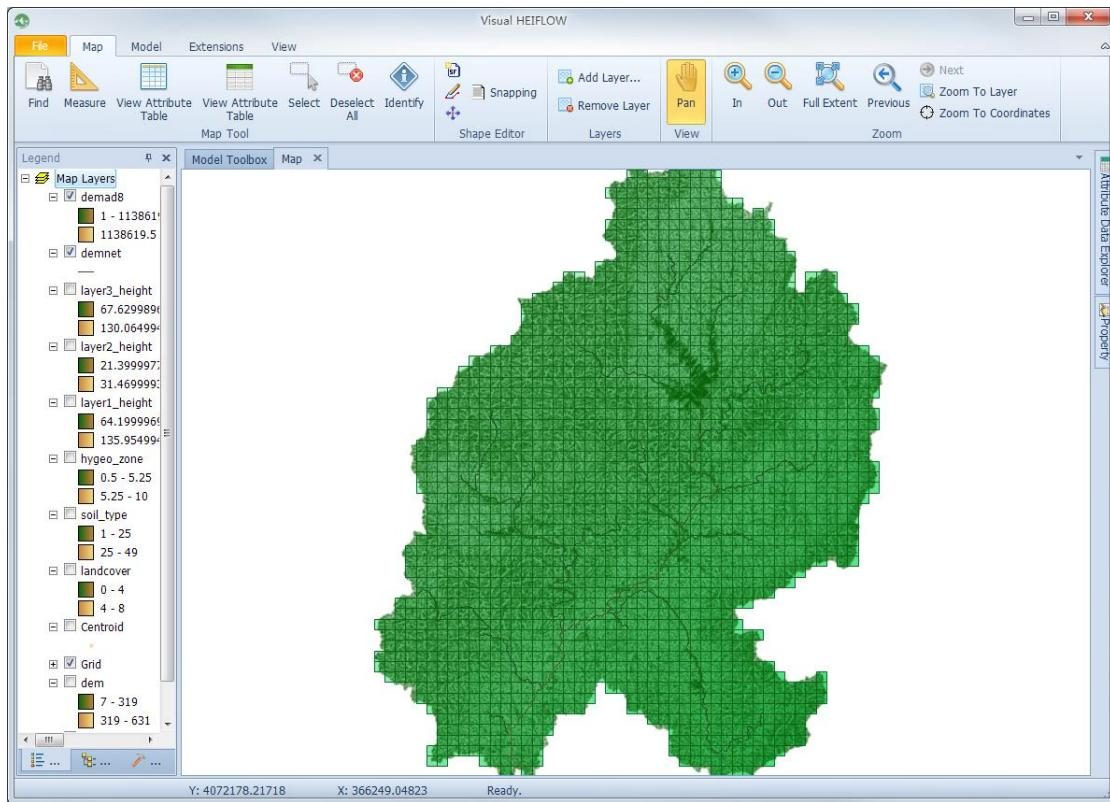

Figure 5-27. Adding “demad8.tif” to the map, this raster represent accumulated drainage area.
- 5) Select Map -> Add Layer..., locate to the current project folder(e.g., C:\Users\Administrator\Documents\MIHO\)) and add the “demad8.tif” placed in the Processing sub-folder (Figure 5-27).